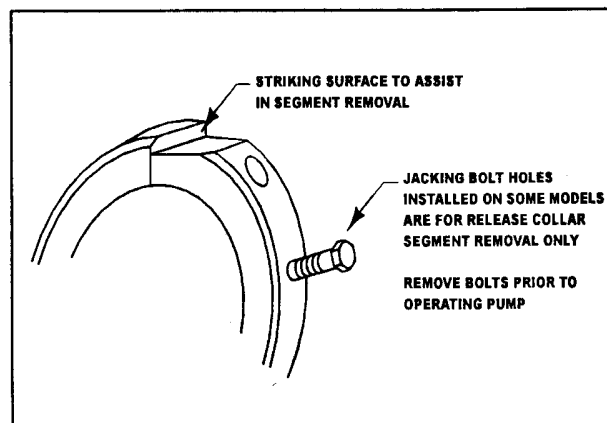

Figure 5-8 Release Collar Jacking Bolt
2. Remove the three bolts holding the release collar together and install Grade 5 or better bolts into the threaded pusher holes in each segment shown in *Figure 5-8*. Do not use the socket head cap screws just removed as pusher bolts if they are 316 SS as their softer properties may cause them to strip during the subsequent removal procedure.